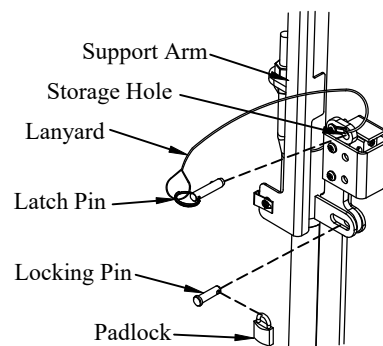

Figure 27: Platform lock.
10. **Insert** the latch pin into the storage hole (Figure 27).
11. **Insert** the locking pin through the hole in the passenger side support arm (Figure 27).
12. **Lock** the padlock through the hole in the locking pin (Figure 27).